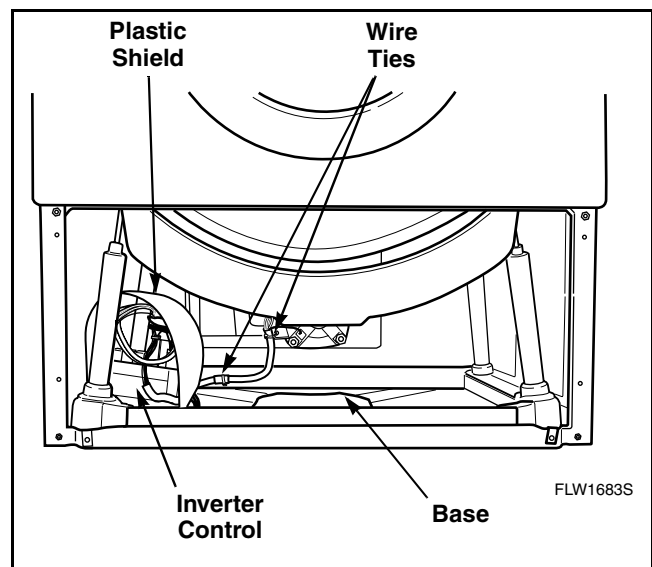

Figure 29
- f. Remove screws holding inverter control to base of washer. Refer to *Figure 29*.
- h. Position the new inverter control on base of washer as shown in *Figure 29*. Reinstall screws (removed in Step “f”) and tighten firmly.
- j. Secure wires to base and motor using new wire ties. Refer to *Figure 29*.